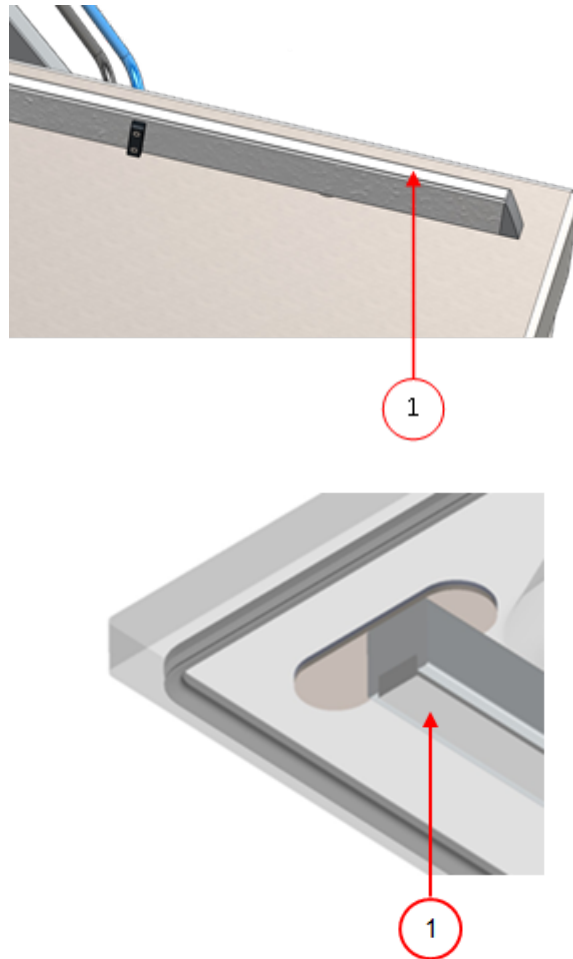

Figure 28: Replacing the Silicone Rubber of the Silicone Holders
1. Pull the old silicone rubber from the holder, see *Figure 28: Replacing the Silicone Rubber of the Silicone Holders* on page 73.